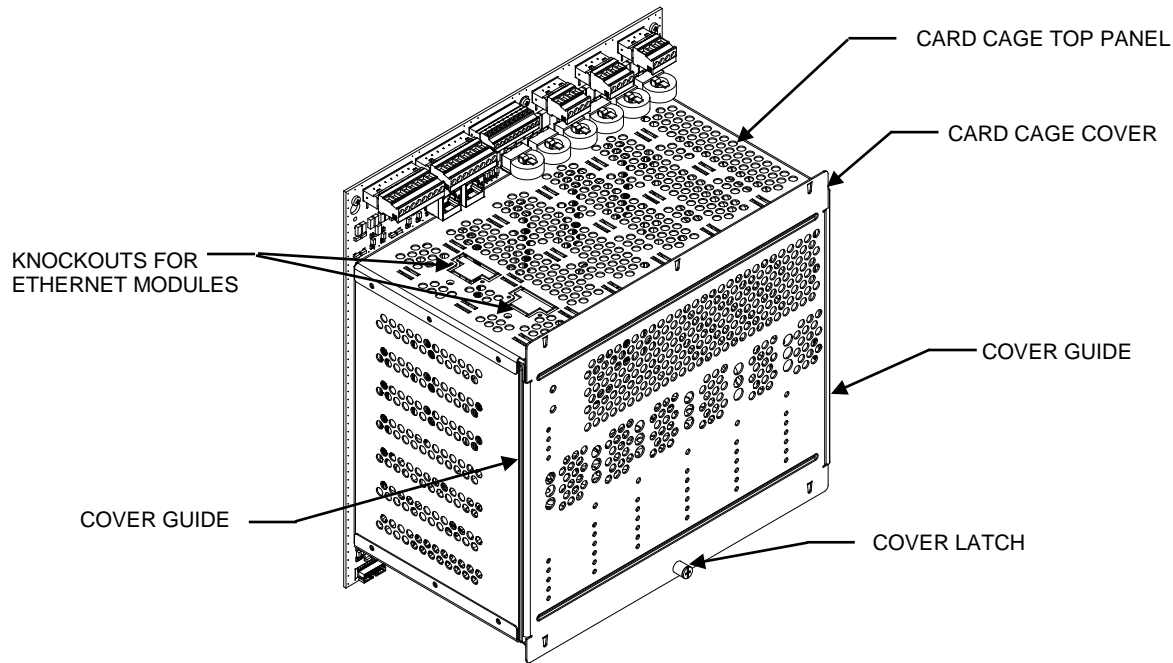

Figure 4
4. Referring to Figure 4, if either or both of the knockouts for Ethernet modules are still present in the Card Cage top panel, remove them. To avoid damage to sensitive electronic components, remove any burrs that may be present in the knockout opening.
- For a link to be implemented using multimode fiber, install a VN2002-A1 Ethernet Module (MM).
- For a link to be created using single-mode fiber, install a VN2003-A1 Ethernet Module (SM).